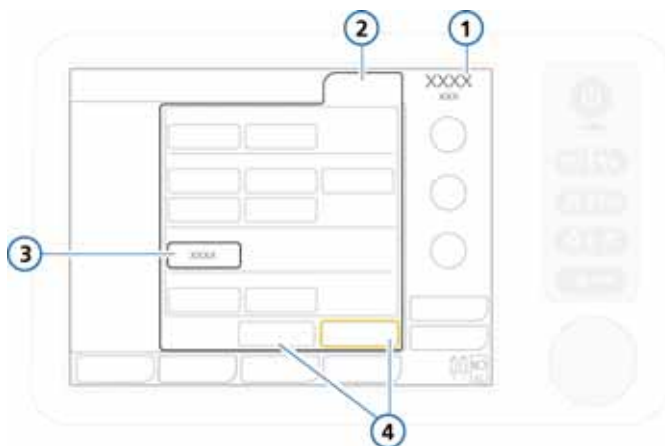

Figure 5-4. Changing the mode, Modes window
1. Open the **Modes** window. See Figure 5-4.